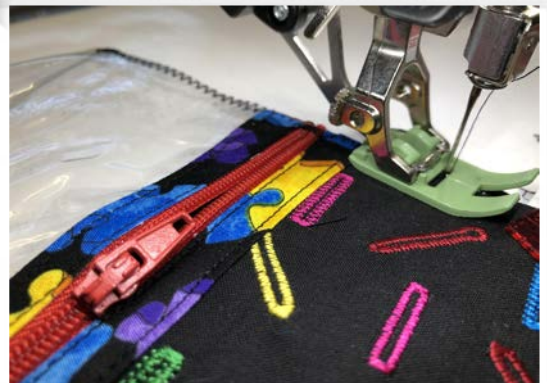

Fig 10
- Stitch around the long curved edge, using the guide in the centre of Foot on the cut edge of the pouch. I use this step whenever I'm binding placemats, small quilts etc. It reduces the bulk in the binder. See Fig 10.